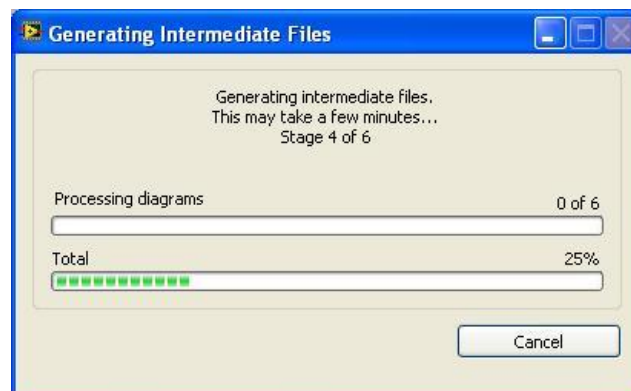

Figure 17: Generate Intermediate Files
1. Open the FPGAVI.vi if not already open. While pressing the <Ctrl> key, press the **Run** button to compile the FPGA code. An alternate method of compiling is to right-click the VI in the **Project Explorer** window and select **Compile**. Note that LabVIEW might ask you to save your project. Save your project as Push LED Test. The LabVIEW code is now being translated to intermediate files as shown in Figure 17.